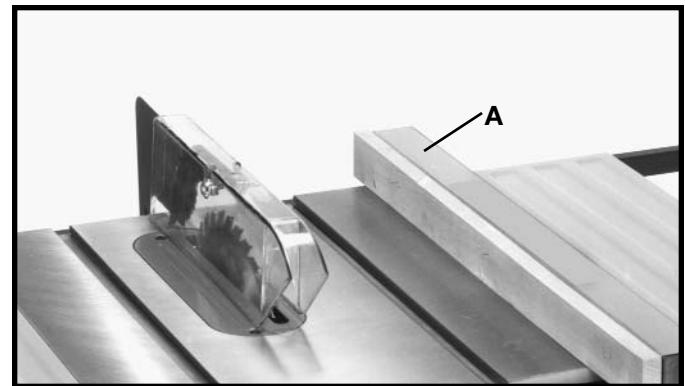

Fig. 60
**CAUTION** It is necessary when performing special operations such as moulding to add wood facing (A) Fig. 60, to one or both sides of the rip fence, as shown. The wood facing is attached to the fence with wood screws, countersunk and assembled through the holes provided in the fence. 3/4 inch stock is suitable for most work although an occasional job may require 1 inch facing.